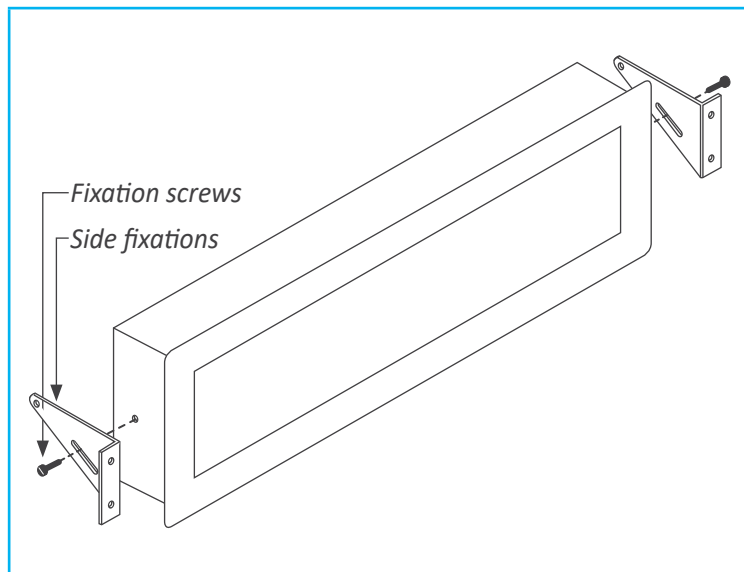

Figure 15 - Panel mount
- Panel mount. Apply the cut-out to the panel as seen on section 1.4. Remove the side fixations. Introduce the instrument into the panel cut-out. Mount the side fixations as shown (see Figure 15). Slightly loosen the fixation screw of one side and press the instrument against the panel. Tighten the fixation screw so it presses the panel and maintains the fixation. Repeat with the opposite side fixation.